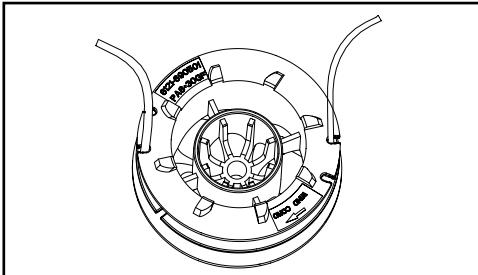

Fig. 16
3. Fix the 2 line ends (approx. 15cm) at the opening to keep the line wound tightly. (Fig.16)